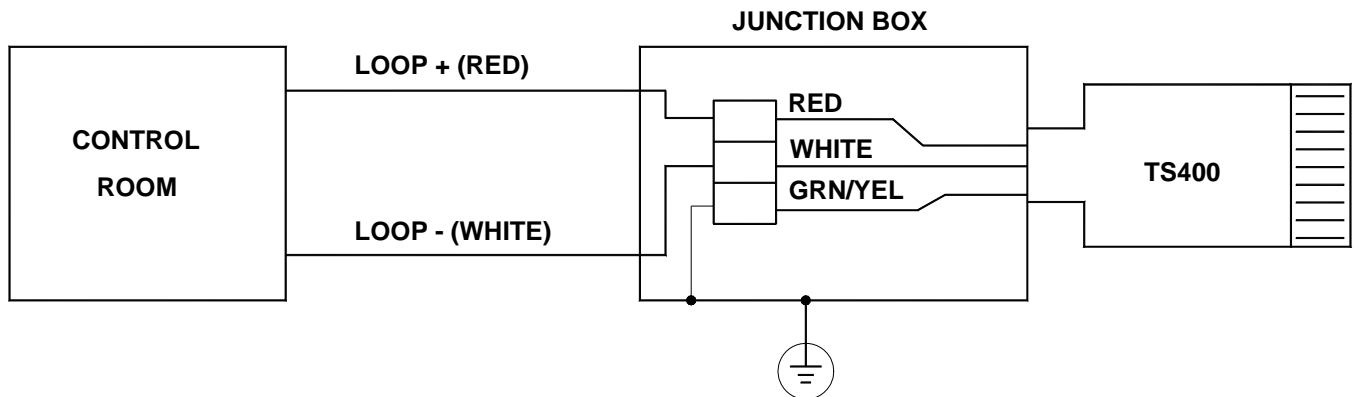

Figure 6: Wiring Diagram
The red and white wires at the base of the TS400 provide for 4-20mA loop-powered operation. The red wire is the "loop +" lead and the white wire is the "loop -" lead (Figure 6). A third green/yellow wire is provided for frame ground.
NOTE: Certain types of sensors are shipped with a shorting wire across (2) two pins. This wire must be removed prior to installing in the TS400. Other sensors are shipped attached to a small circuit board with a button-type battery (the battery board). Remove circuit board prior to installing in TS400. Save both the shorting wire and battery board for later use (Figure 6).
If power is removed from the TS400 for periods greater than one hour, the sensor should be removed from the TS400 and placed in the original storage container it was shipped in. Storage of the sensor in the original container guards against sensor contamination, such as, solvents, lubricant, humidity, etc. In addition, some sensors are shipped with a shorting wire or battery board, which should be reconnected to the sensor prior to storage in the storage container. (Figure 6) Failure to reconnect the shorting wire or battery board prior to storage can result in very long sensor stabilization after re-installation into the TS400 (stabilization can be as long or greater than a week).